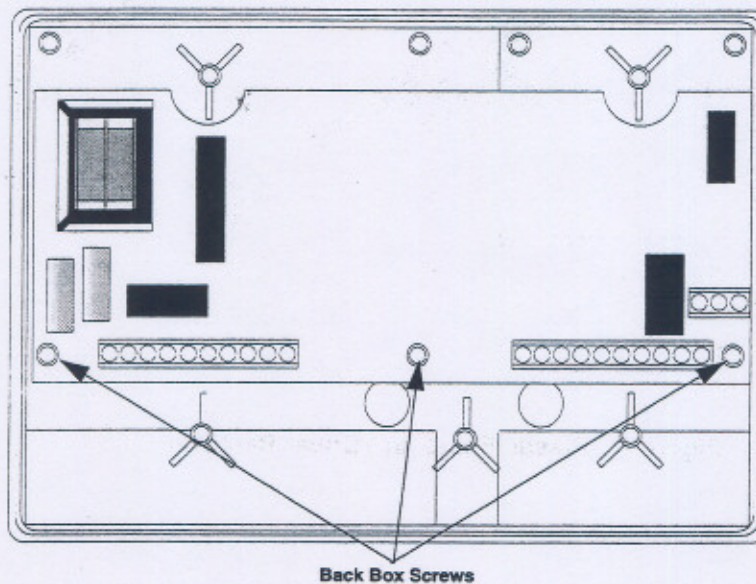

Figure 2.3 Removing Back Box Screws
3. Remove the three back box screws from the module and remove the circuit board. (See Figure 2.3.)